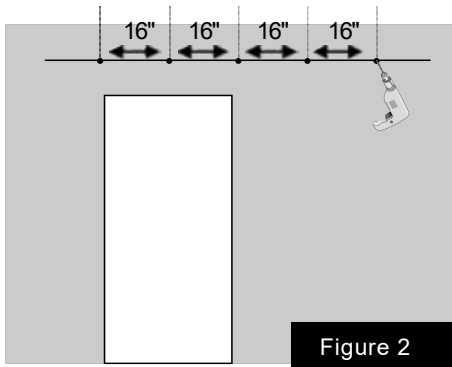
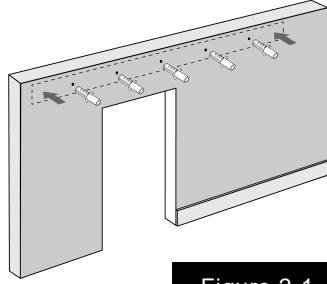

Figure 2
Figure 2-1
- Pre-drill 5 pilot holes of 2" depth with 3/8" drill bit (Figure 2). Install the lag bolts anchor into the predrilled holes using a hammer (Figure 2-1).